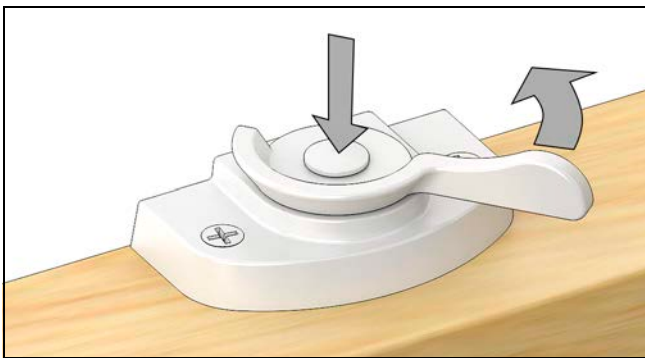

Figure 81
2. Raise sash to a comfortable position. Hold button in center of lock handle down while rotating handle to 180° position. See Figure 81.